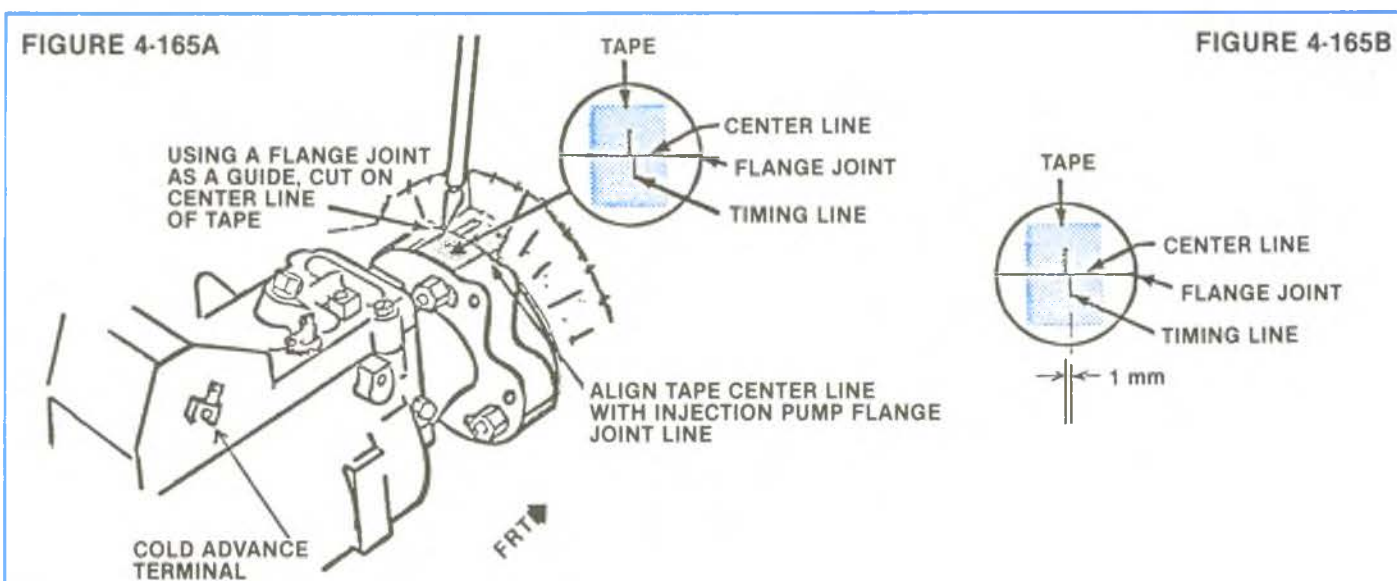

Figure 4-165A-B, Injection Pump Static Timing.
2. Adjustment of Timing. See Figure 4-165A.